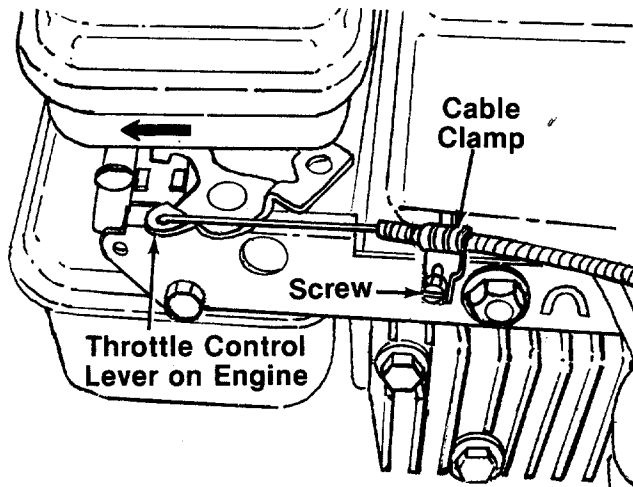

FIGURE 10.
15. Push the throttle control lever on the engine to the full open position (as far toward the outside of the unit as it will go) as shown in figure 10.
17. Remove the screw on the cable clamp shown in figure 10. Slip the control casing under the clamp. With the throttle lever on the engine still in the full open position, tighten the screw to secure the throttle control cable.
1. Loosen, but do not remove, screw securing throttle control wire assembly at engine. See figure 10.